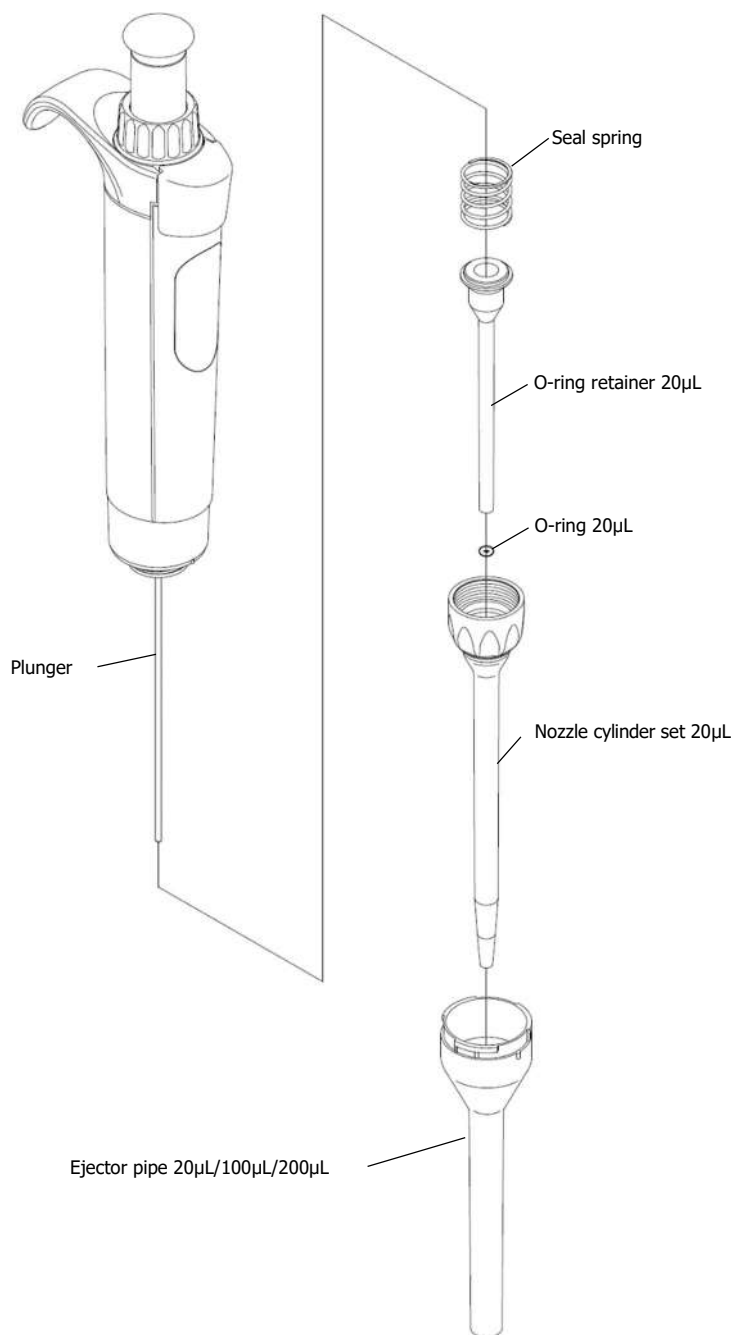

Fig. 4-10
- 20 μ L, 100 μ L, 200 μ L, 1000 μ L (Fig. 4-10 to 4-13)